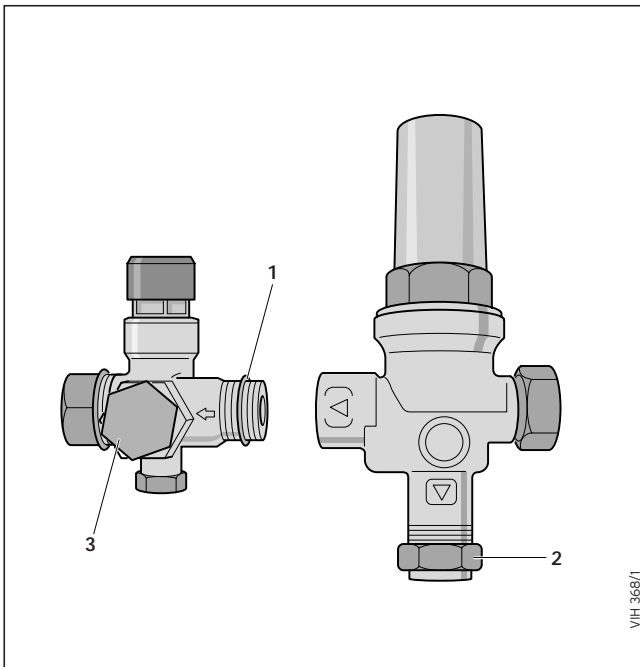

Fig. 11
- Connect the two cold water control valves together as shown in fig 11., ensuring that the orientation of the valves, when installed in the cold mains supply, allows the 15 mm outlet of the expansion relief valve to be connected to the tundish.
- Provide a cold water mains supply to the VANTAGE. To ensure optimum performance from the VANTAGE, and particularly in installations where the balanced pressure cold water outlet (2, fig. 11) is to be used, the pipework provided from the building mains stop valve to the VANTAGE cylinder should be minimum 22 mm copper tube.
- Install the assembled cold water control valves (fig. 11) in the cold mains supply at a convenient position adjacent to the VANTAGE cylinder, ensuring adequate space exists for service access.
- i. Screwing the vessel directly into the control assembly at the purpose provided connection (3, fig. 11) or,
In areas where the mains water pressure is high (4 bar or above) the cold water supply to a bath or shower mixer valve can be taken from the balanced pressure cold water outlet (2, fig. 11) of the cold water controls. This will ensure that both hot and cold supplies to the mixer valve are at approximately the same pressure. The cold water supply for all other terminal fittings should be feed into the cold water supply pipework to the VANTAGE upstream of the cold water controls.